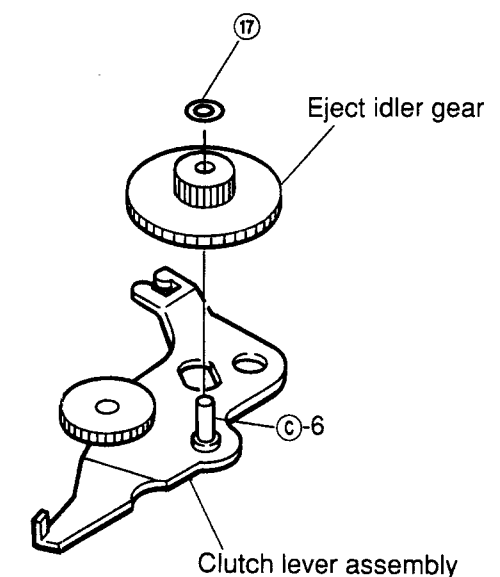

Figure 15
- (2) Remove M1.2 lock washer ⑮ and remove the eject idler gear as shown in Figure 15.
- (3) Mount the new gears and clutch lever following the removal steps in the reverse order.
Note: When mounting the gears to the lever, apply grease (PG-671) to the position ㉔-6 as shown in Figure 15. Align the position ㉔-7 with the position ㉔-8 and mount the clutch lever as shown in Figures 10 and 15.